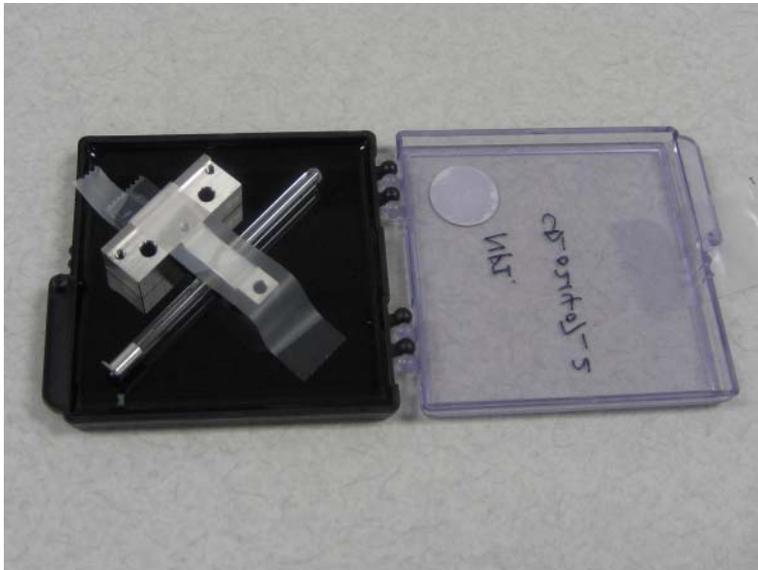

Figure 12: Condenser in mounting bracket.
1. The condenser is first installed in a mounting piece (see Figure 12). Pay attention to the correct orientation. The central stop is located on the downstream side of the condenser.